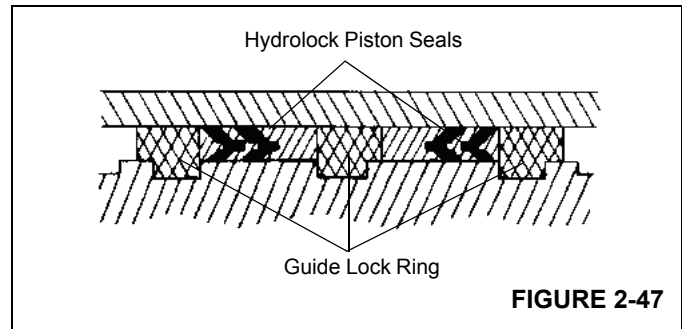

FIGURE 2-47
- Install the guide lock rings and hydrolock seals onto the outside of the piston, see Figure 2-47.